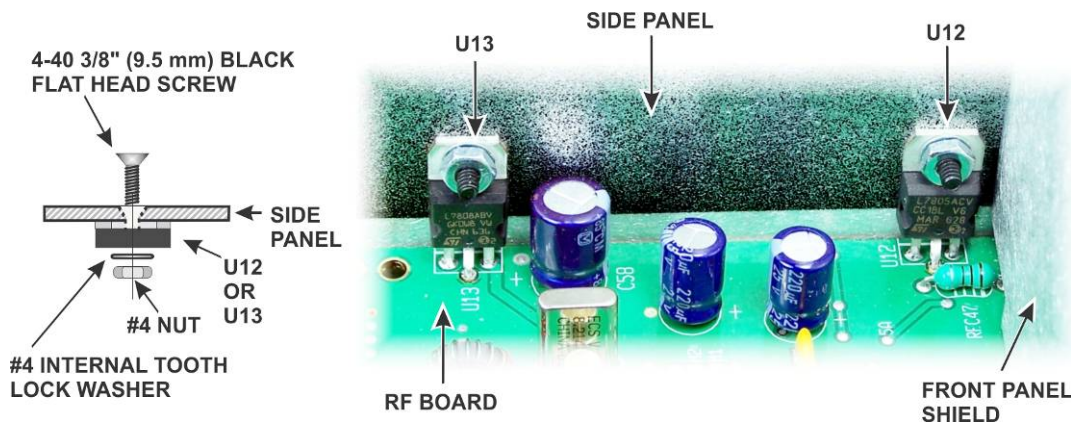

Figure 75. Attaching U12 and U13 to the Right Side Panel.
Attach voltage regulators U13 and U12 to the right side panel as shown in Figure 75 using a 4-40 3/8" (9.5 mm) black flat head screw (SS), #4 inside tooth lock washer and a #4 nut for each regulator as shown. When the screws are tightened the tabs on U12 and U13 should lie flat against the side panel.